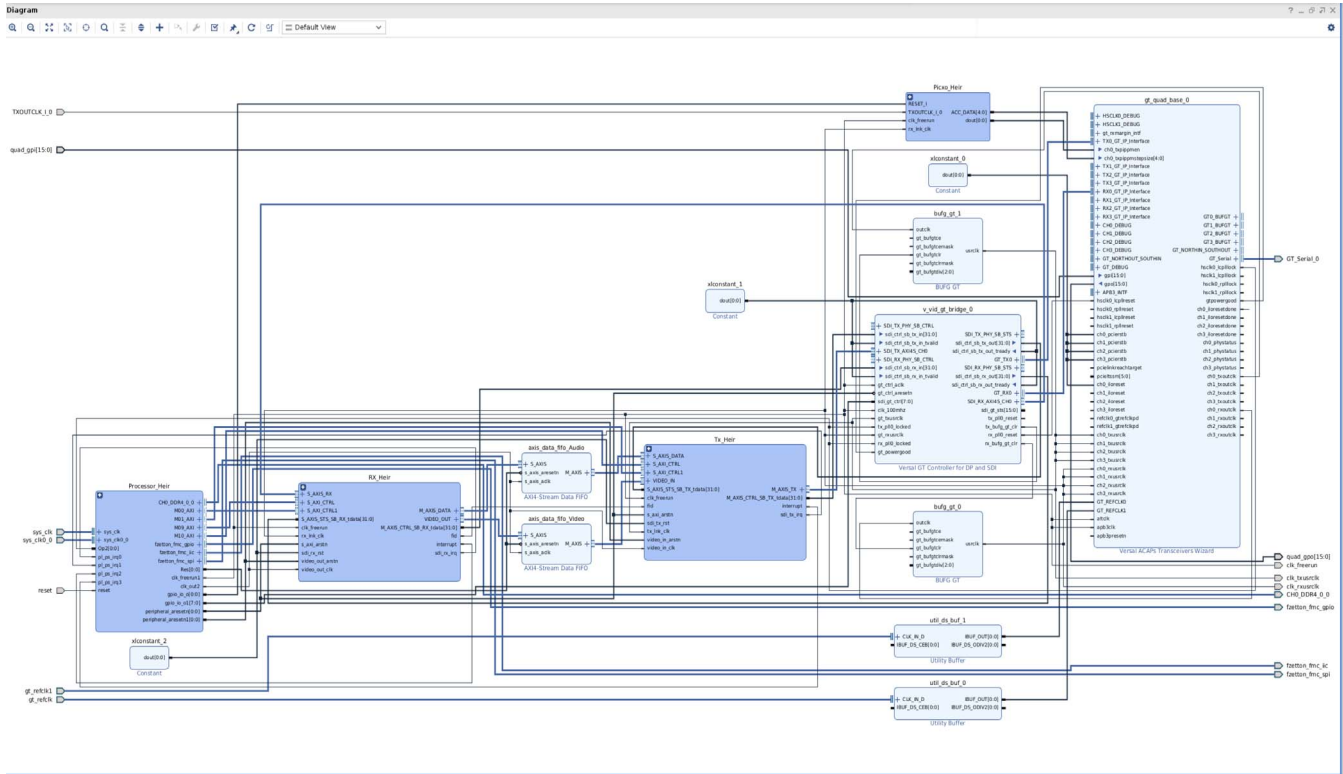

Figure 5-48: IP Integrator Diagram of the vck190 Audio-Video Pass-Through Example Design
9. Choose the target project location, and click **OK**. The IP integrator design is then generated and creates the Xilinx® Vitis™ software platform and generates an executable `.elf` file. You can choose to **Run Synthesis, Implementation**, or **Generate Device Image**. An overall system IP integrator block diagram of the VCK190-based application example design is displayed, as shown in Figure 5-48.